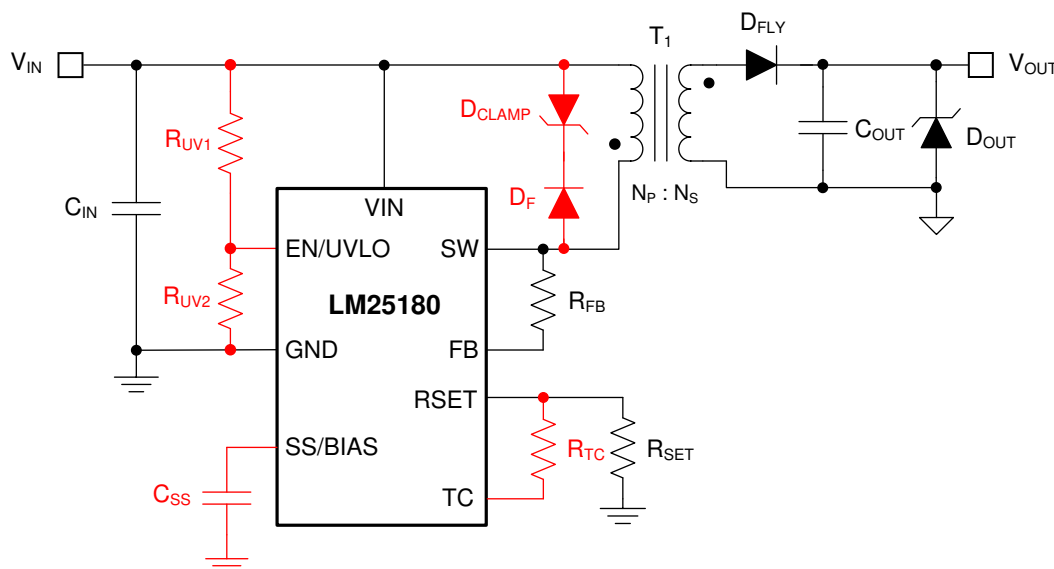

FIG 19. LM25180-Q1 Flyback Converter Schematic (Optional Components in Red)
To minimize output voltage regulation error, the LM25180-Q1 senses the reflected secondary voltage when the secondary current reaches zero. The feedback (FB) resistor, which is connected between SW and FB as shown in 图 19, is determined using 式 8, where R_{SET} is nominally 12.1 kΩ.